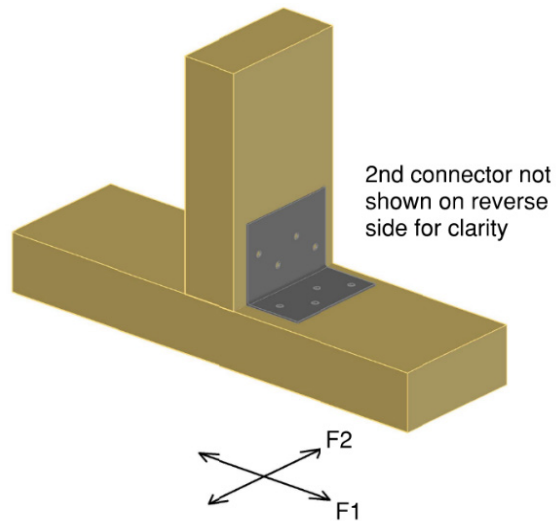

Figure 2. Angle Connector Load Orientations
- F1 direction is parallel to wall line. F2 direction is perpendicular to wall line. See Figure 2 for more detail.